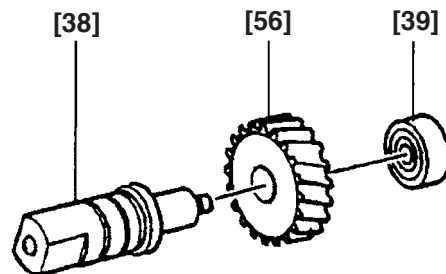

Fig. 6
(5) Disassembly of the Spindle [38] (Fig. 6)